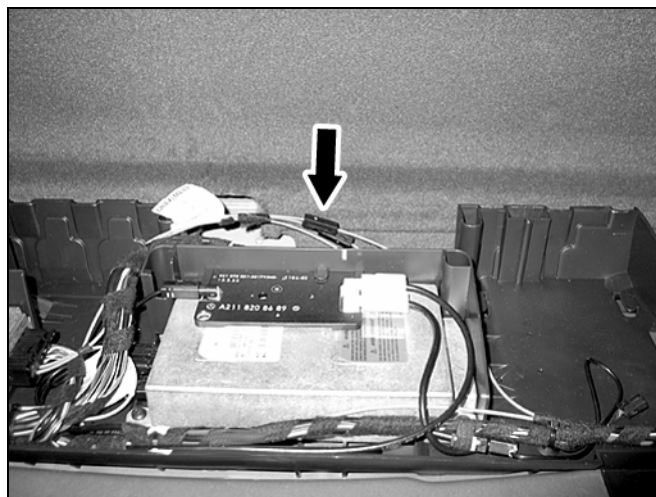

Figure 12
1. Install fiber optic cable into MOST ring (arrow, Figure 12) as indicated in diagram on the next page (please refer to note below for information on identifying cable connections in relation to component position):